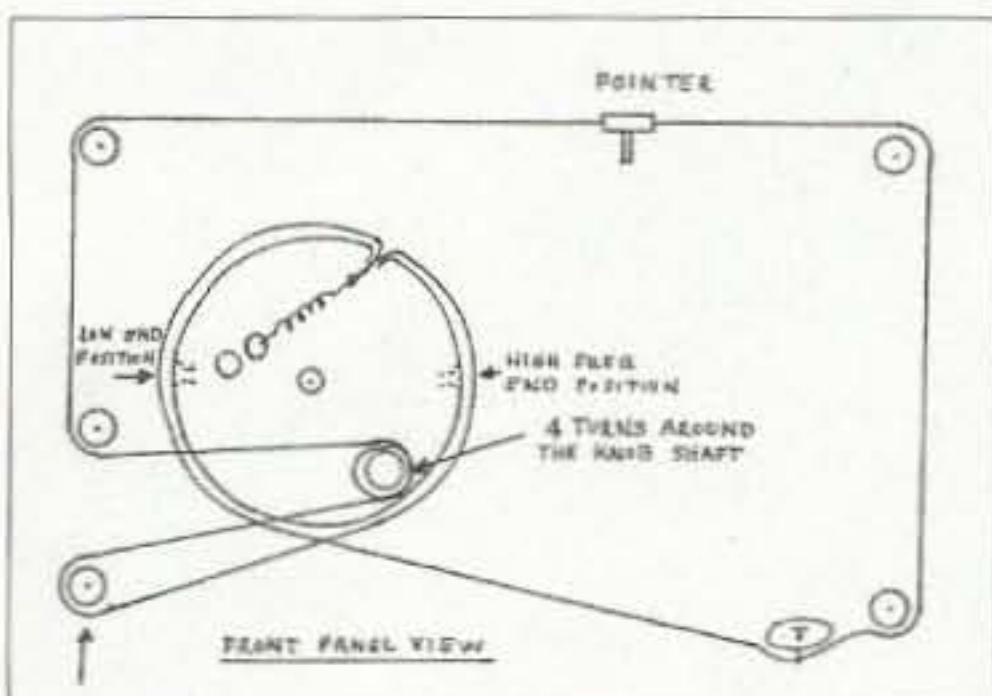

Fig. 4. Dial cord stringing diagram for the KE-93 receiver. The arrow points to the pulley most likely to cause the cord to jump.
**Fig. 4** shows the dial cord stringing pattern that can be used as a guide should replacement become necessary.
With the cord in place, I carefully rotated the tuning knob while watching the pulley shown with an arrow in Fig. 4. As the knob was rotated, the dial cord walked along the knob shaft away from the pulley, causing the cord to ride up and over the edge of the pulley. Of course, I stopped rotating the knob once I detected the problem situation. How to "fix" the problem was the real question. Through observation I noted that the knob shaft was badly corroded, causing the cord to stick to the shaft when some slippage would be normal. I also noted that the edge of the pulley was corroded and that the corrosion was grabbing the cord and lifting it up to the pulley's edge, allowing the cord to jump over.